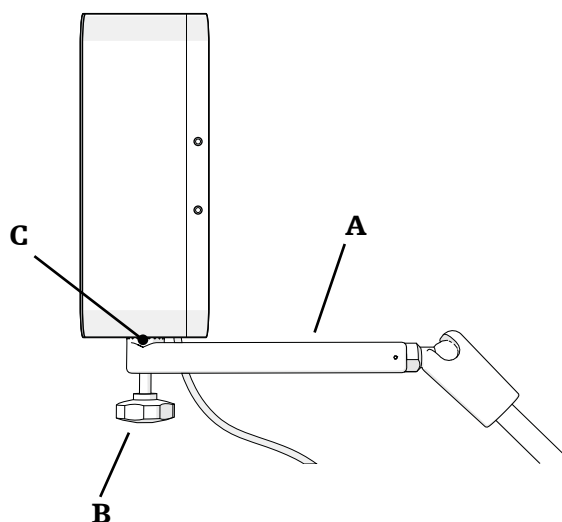

Figure 1 – Positioning the Field Generator on the Field Generator Mounting Arm (Lateral View)
2. Position the Field Generator Mounting Arm with the teeth (Figure 1, C) facing up and the upper part of the articulated arm of the Field Generator Mounting Arm (Figure 1, A) parallel to the operating table.
3. Place the Field Generator flush on the teeth of the Field Generator Mounting Arm (Figure 1, C).
4. Fixate the Field Generator from above with one hand, insert the star handle screw (Figure 1, B) straight into the thread of the Field Generator and fasten the star handle screw with the other hand from below.
1. Position the Field Generator Mounting Arm in such way that the the upper part of the articulated arm is parallel to the operating table and the star handle screw of the Field Generator Mounting Arm faces down. Refer to Figure 1.